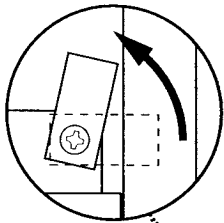
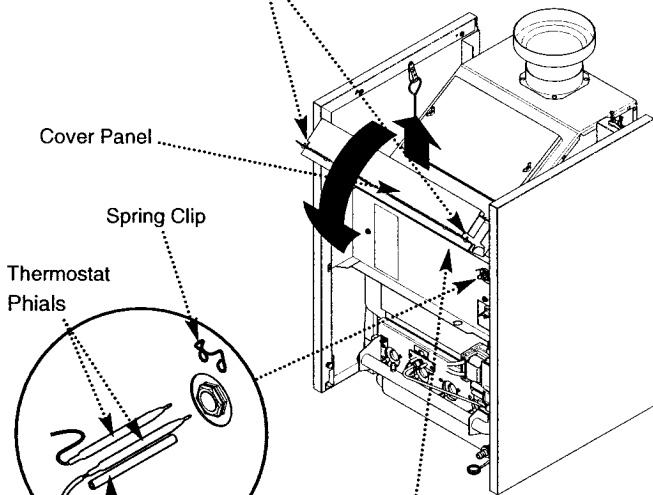

Fig. 31
Fig. 32
1. Swivel the two retaining plates (Fig. 31) through 90°. Lift the control box slightly and allow it to hinge forwards. Undo the two retaining screws and remove the cover panel (Fig. 32).